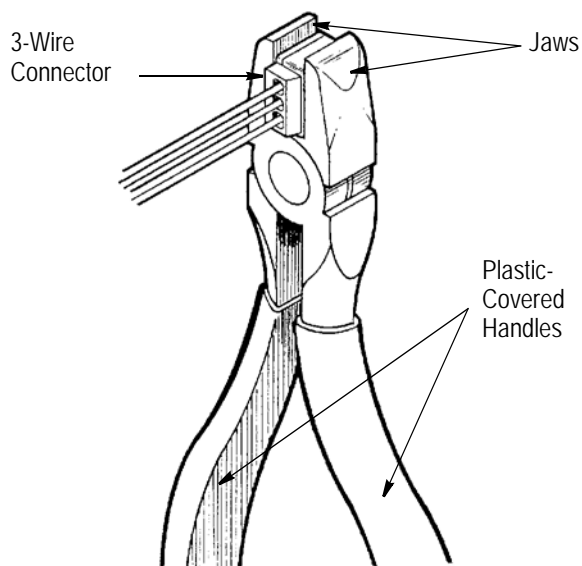

Figure 3
3. Position jaws of tool over connector. Check to be sure wires have not shifted. Hold wires in place and squeeze tool handles together until connector is bottomed as shown in Figure 3.